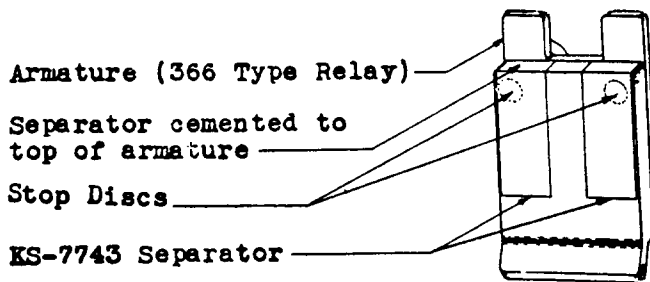

Fig. 9 – Location of KS-7743 Separator on 366-type Relay Armature
(1) Withdraw a strip of separator KS-7743 from the container and cut off two pieces 15/16" long. Fold over one end of the paper 3/16" long to form a right angle. Insert one of these separators between the armature and core so that the short offset portion extends toward the front of the relay and the long portion covers one of the stop discs as indicated in Fig. 9. The 6" tweezers may be used to facilitate inserting this separator between the armature and core. Apply a small amount of KS-7756 cement to the short end of the separator, using a clean toothpick, and hold the short end of the separator firmly against the top surface of the armature until it adheres. Repeat the above procedures applying the other separator over the other stop disc.
(2) After the separators have been applied, check that the relay meets the electrical and mechanical requirements and readjust if necessary.